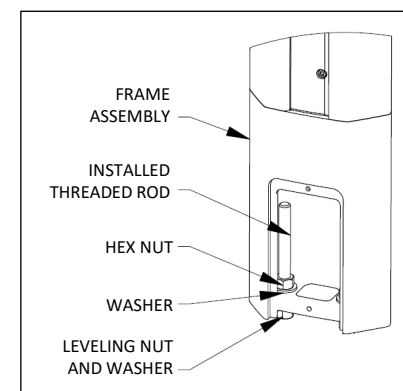

Fig. C2 – Install frame over anchors
1. Set front Tee vertical in position over anchors. Install washers and nuts, see Fig. C2. Do not overtighten. Access hole for cover plate should be facing toward the inside of the shelter.
5. Install washers and nuts, see Fig. C2. Do not overtighten.